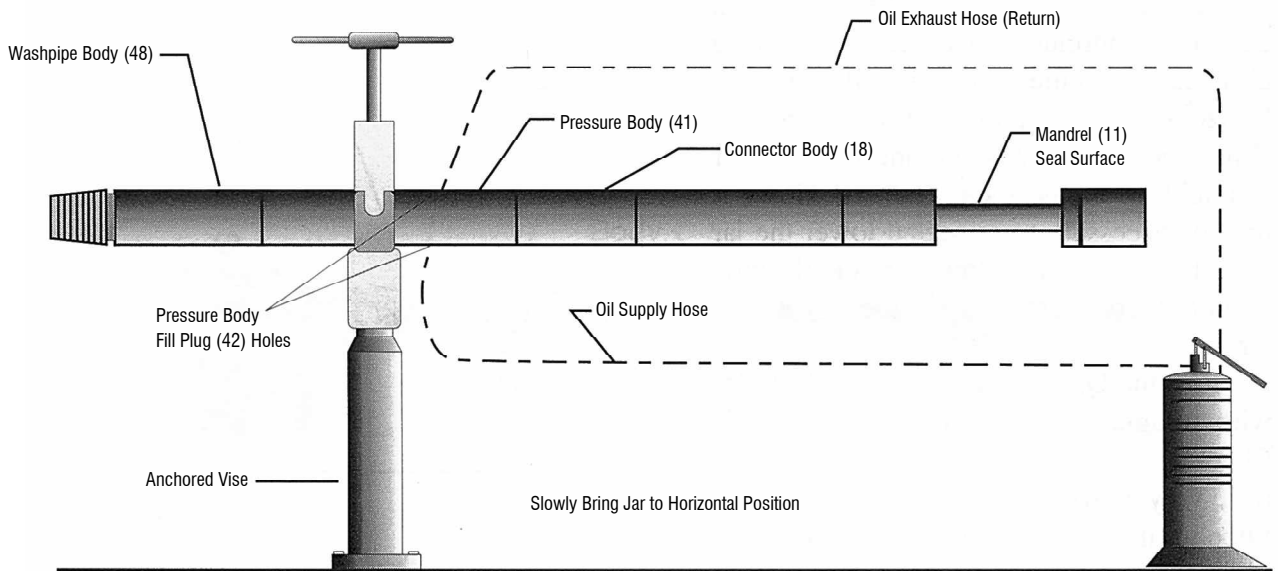

Figure 9
4. Slowly raise the Jar to the horizontal position. Continue to fill the Jar allowing air to escape as the Jar is gradually raised to horizontal. (See Figure 9.) When the Jar is horizontal